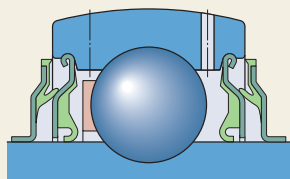

Fig. 23
- consist of a sheet steel insert with a vulcanized 5-lip contact seal made of a low-friction NBR compound (fig. 23):